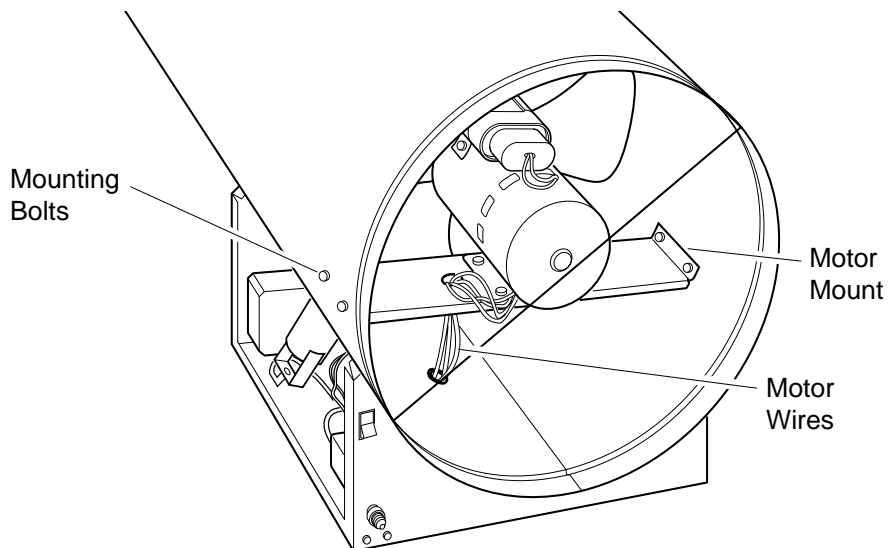

Figure 12 - Location of Fan and Motor
5. Reach into rear of heater shell. Carefully pull motor wires through hole in bottom of shell (see Figure 12). **Note:** Pull wires through hole one at a time.
6. Remove nuts and mounting bolts holding motor mount to shell. Use 3/8" nut-driver and 7/16" wrench (see Figure 12).
20. Route motor wires through hole in bottom of shell (see Figure 12, page 12).